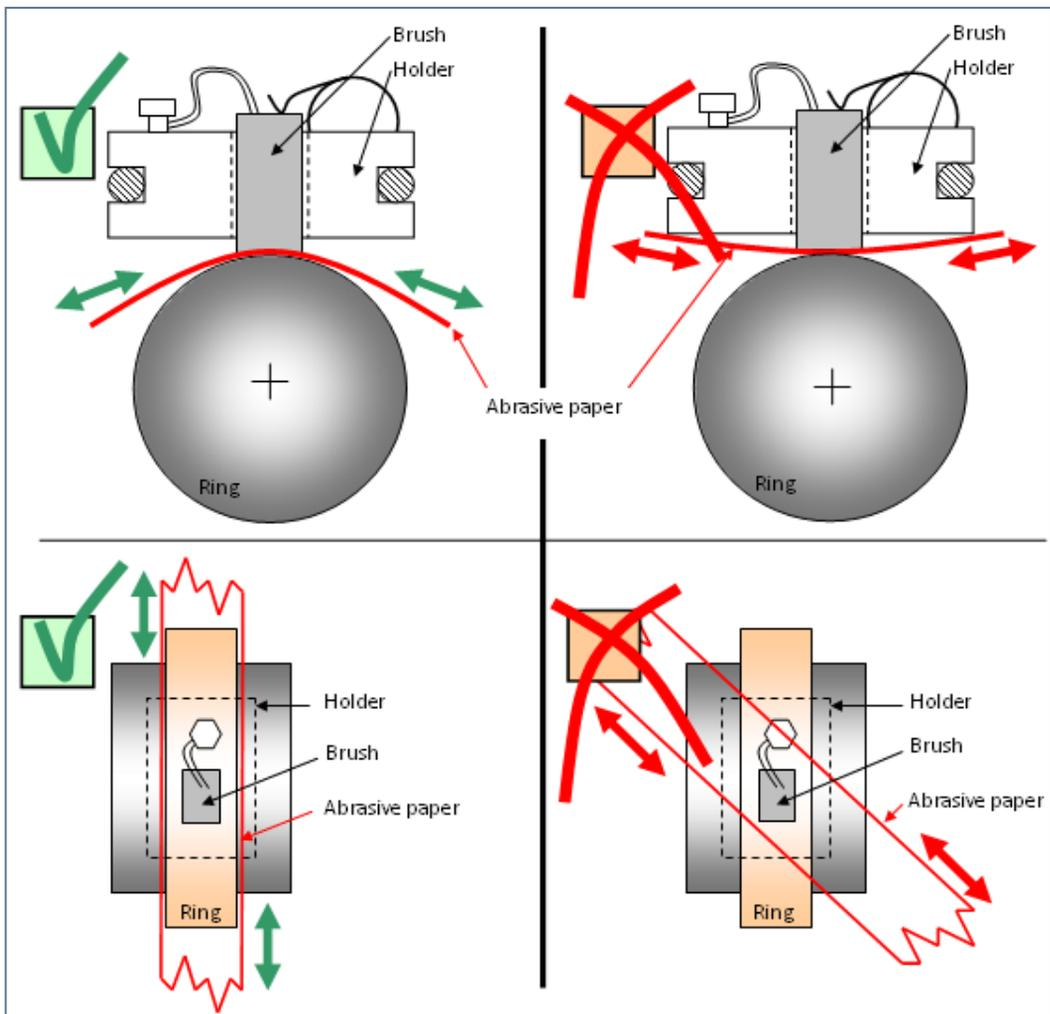

Figure 13 - Brush seating process
- Recommended Brush Seating procedure as per Figure 13: